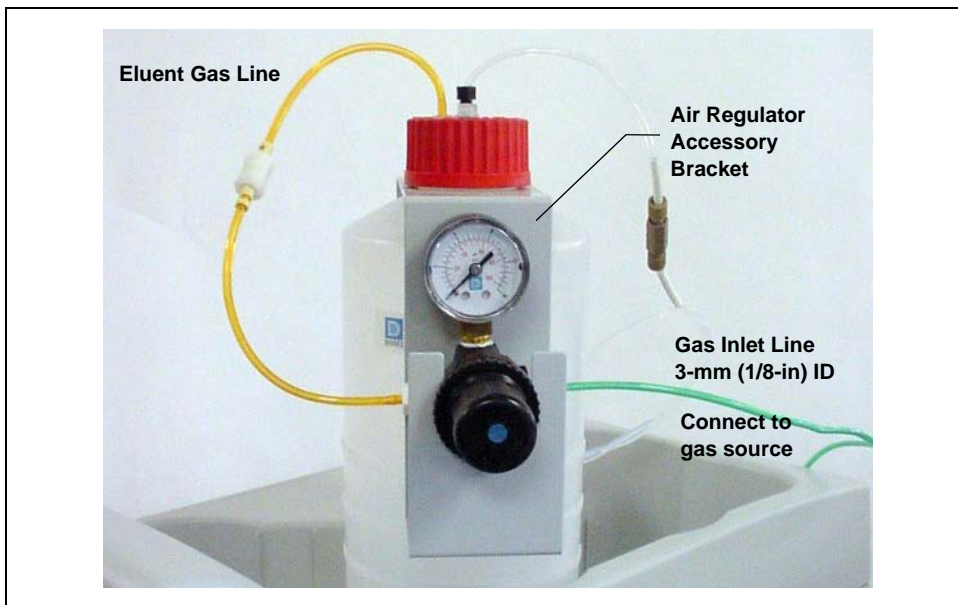

Figure 112. ICS-2000 Pressurized Eluent Reservoir Connections (Optional)
3. Push the other end of the tubing onto the inlet of the air regulator (see Figure 112).
6. Slip the air regulator accessory bracket over the neck of the eluent reservoir (see Figure 112).